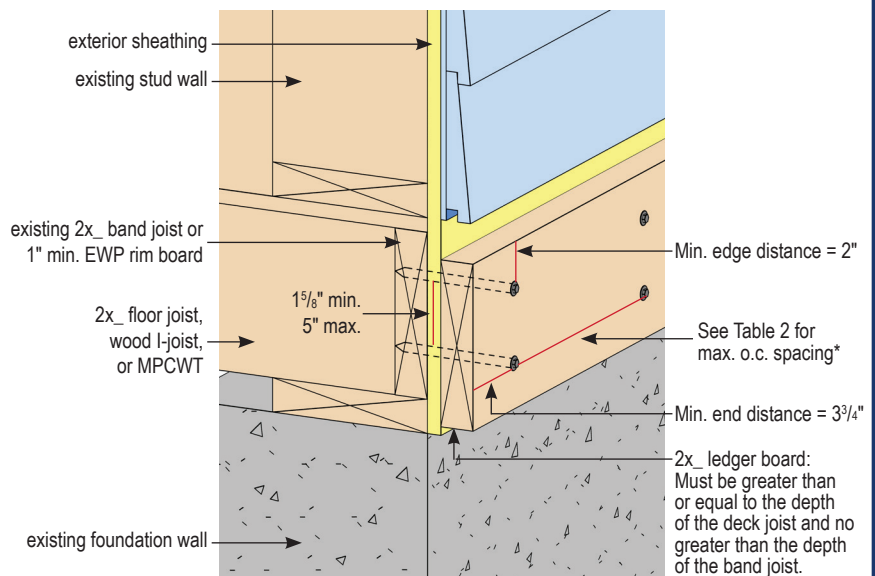

FIGURE 1. Deck Connection with 3/8" Diameter Ledger Board Screws
- Stagger the fasteners from the top to the bottom along the length of the ledger while maintaining the required edge and end distances as shown in Figure 1, which provides a detail of a deck connection with 3/8" Diameter Ledger Board Screws.